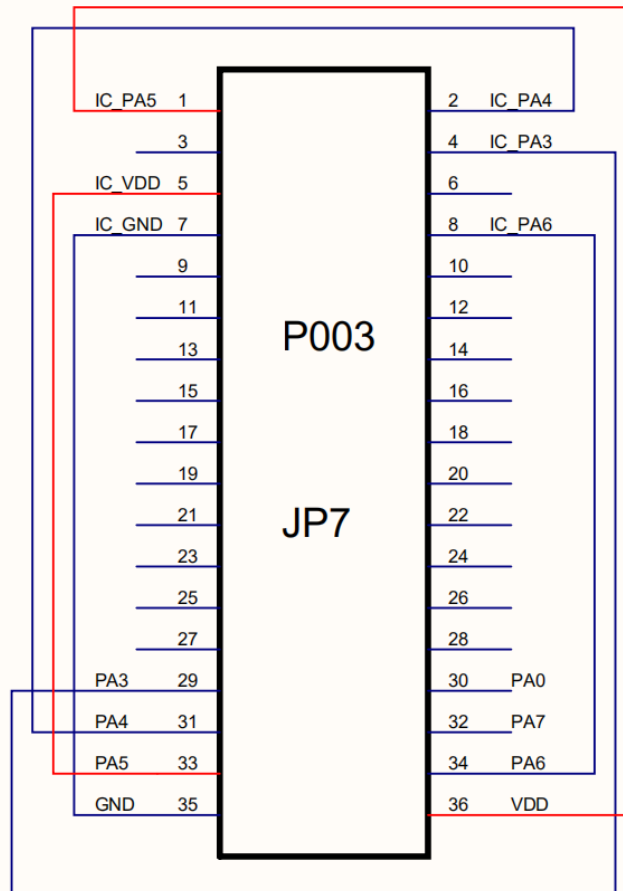

Fig. 27: schematic diagram of PMS152E-S08B Jumper7 when using p003
2. As shown in figure 27, it is the Jumper7 connection method.